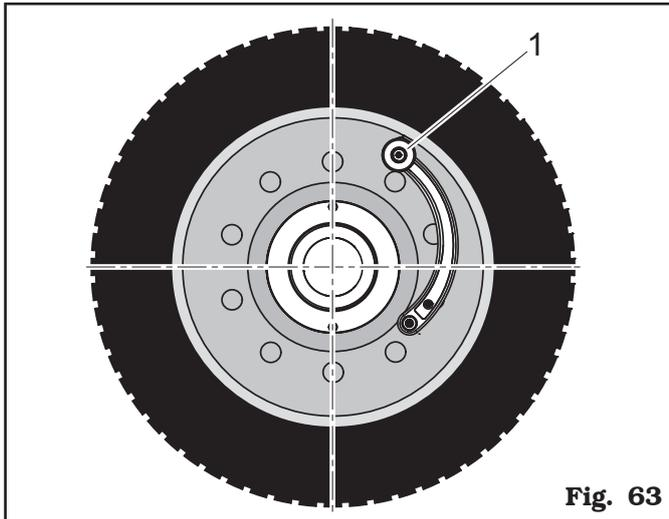

Fig. 63
Bring the gauge ferrule (**Fig. 63 ref. 1**) on the inner edge of the wheel UPWARDS, touching the diameter point used previously for the "A" measurement detection (**Fig. 62**), display D2 will show a bit value.